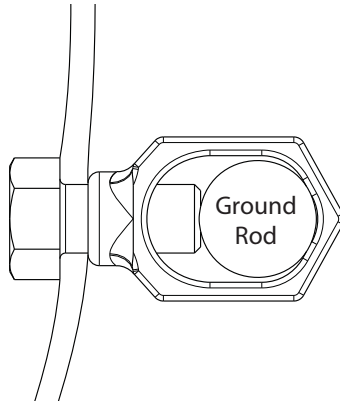

Figure 4-3. Ground Clamp Installed on Ground Rod
4. Install ground rod clamps on ground rods (see Figure 4-3).